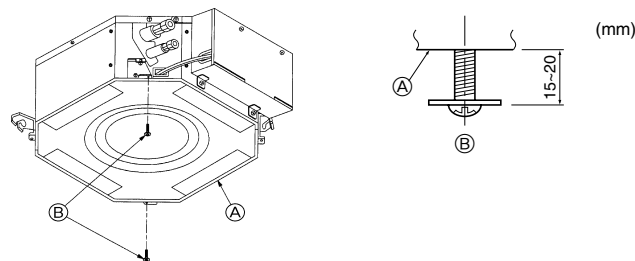

Fig. 8-5
8.3.1. Preparations (Fig. 8-5)